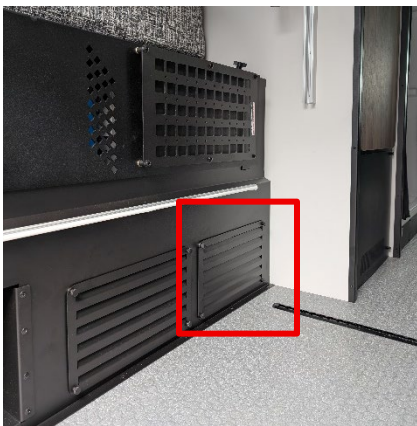
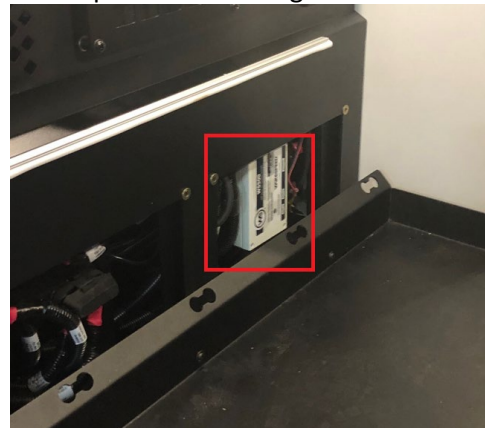

Figure 7A
Figure 7B
- To access the Wakespeed Regulator, remove the access panel in rear of coach shown in figure 7A by removing the 4 plastic thumb screws to remove panel. Wakespeed shown in figure 7B.